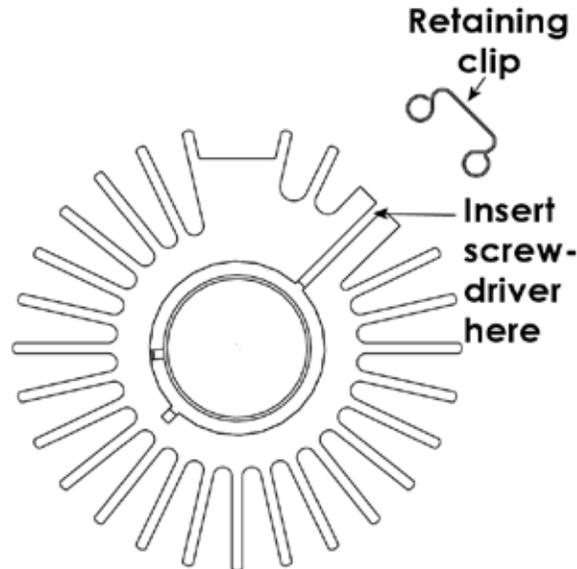

Figure 5-3. Heat sink retaining-clip removal.
4. Pry one of the retaining clips off one of the heat sinks and remove the heat sink. If the heat sink does not come off the bulb, insert a flat screw driver in the side slit of the heat sink and widen the gap (Figure 5-3) to remove the bulb. Repeat with the second heat sink.